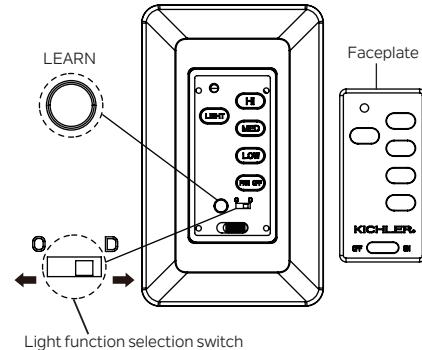

Fig. 22
1. Use a small flat screw driver and gently pry the faceplate apart from the top of wall control. (Fig. 22)
## LIGHT FUNCTION SELECTION SWITCH (Fig. 22)